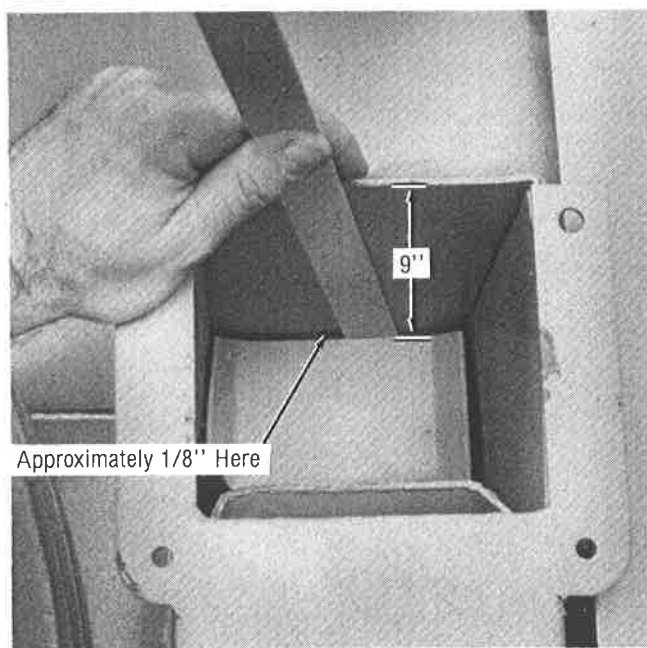

Figure 13 Proper Blower Paddle Clearance
Blower paddles must be adjusted so there is approximately 1/8" between the ends of the paddles and the wall of the blower housing where indicated in Figure 13. To adjust:
- Insert a 1/8" rod or bar between the end of the paddle and the housing wall, as shown in Fig. 13.
Hose plugs	Blower paddles may need adjustment. See Fig. 13. Material being chopped may have too much moisture in it. RPM may not be high enough. (540 RPM is recommended for most applications.) Foreign material may be lodged in the hose.